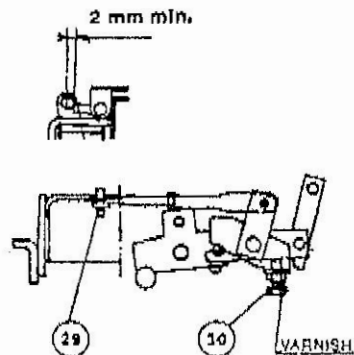

Fig. 18
2) Inspection. Place breaker in latched position as illustrated in Fig. 18. Check for minimum clearance of 2 mm (0.079 inch).